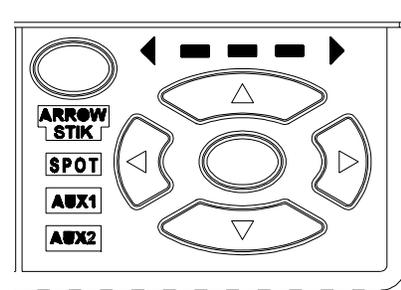

Figure 6,
RLS Siren Models 3997, 3997R, 3999 & 3999R have five (5) "Special Function" switches which provide a means of control, on properly equipped installations, for an ArrowStik for Models 3997 & 3997R and an ArrowStik, NIGHTPROBE™ spotlight, and the RLS Auxiliary Relay Module for Models 3999 & 3999R. On Models 3997 and 3997R these switches control the function of the ArrowStik. On Models 3999 and 3999R, the function of these five switches is determined by the Special Function Select Button. Each time the Select switch is Depressed the Special Function Mode will scroll to the next mode as indicated by the illuminated legend of the Special Function Indicator (see Figure 6). The function of the switches in each mode is described below.